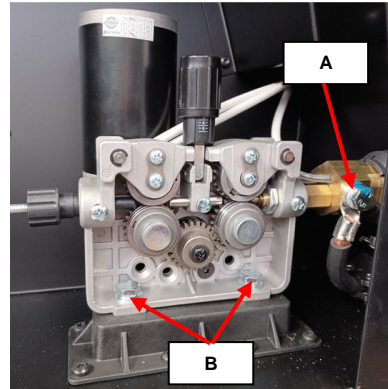

Figure 2
7. Remove the 2 screws (**B**) using TX25 screwdriver. See **Figure2 and 3**.